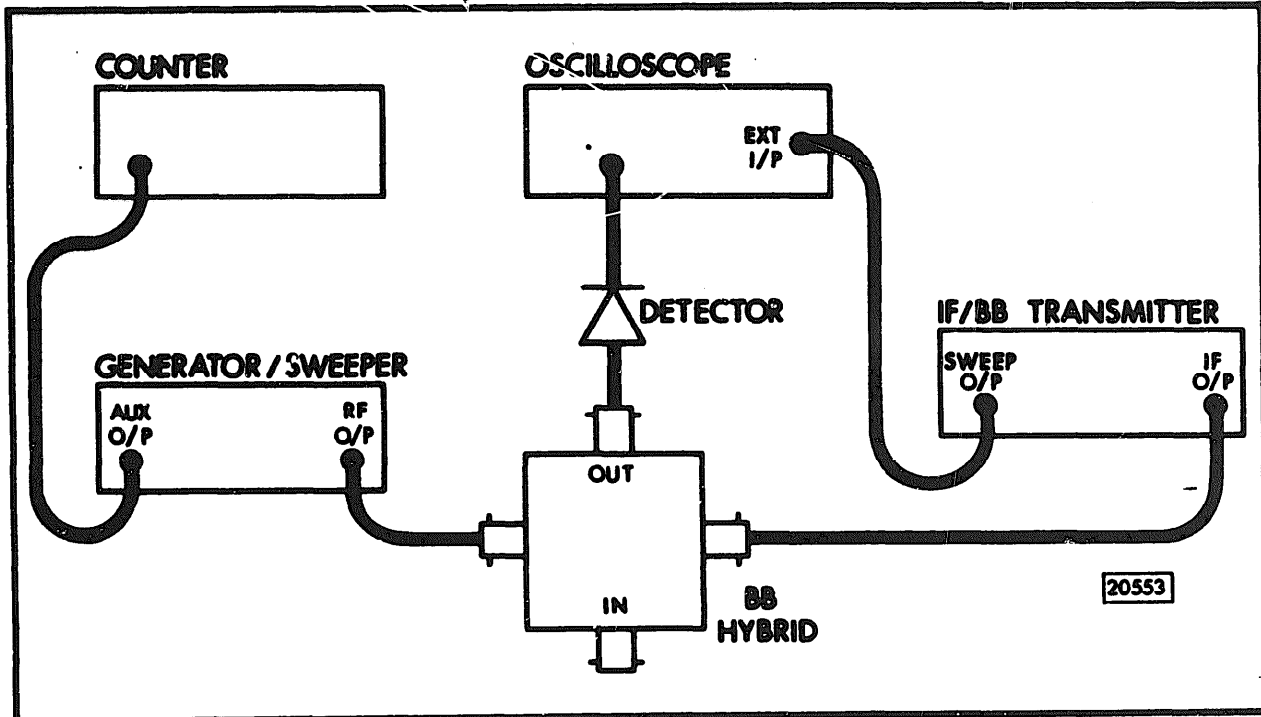

Figure 4-6 IF Section - Sweep Width Check
2. Set the SWEEP (5) to INT and the OUTPUT LEVEL (4) fully clockwise.
3. Connect the equipment as in Figure 4-6.
9. Other settings of the SWEEP WIDTH (7) control may be verified using the technique given in steps 4 through 8.
10. Set the SWEEP switch (8) to LINE and repeat the Sweep Width tests, steps 3 through 8 above. The Sweep Width should again be 50MHz \pm 2MHz.